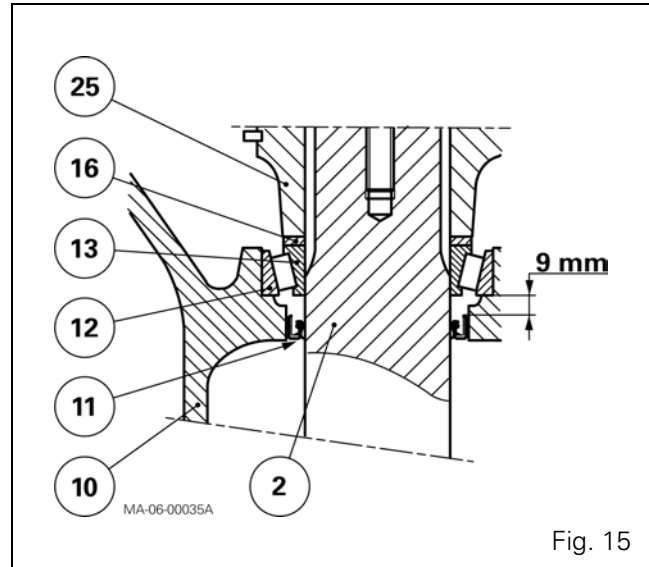

Fig. 15
69. Replacing the seal (11):
- **Without replacement of the shaft (2):** So that the seal lip does not rest in the same place on the shaft, fit the seal 9 mm from the shoulder of the cup (Fig. 15).